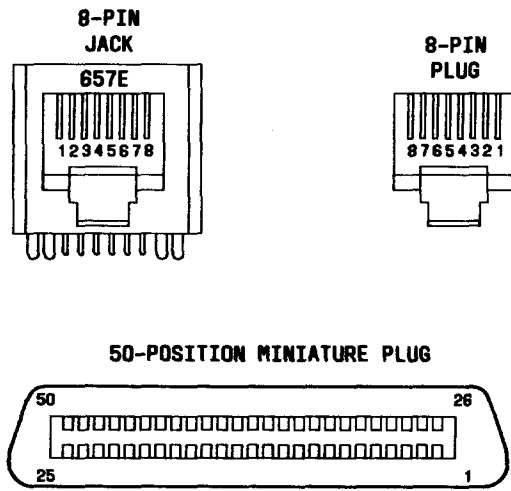

Fig. 3—Customer Connector Pin Numbers
**4.06** Connections to customer equipment can be made using the 16-position terminal strip, the 50-position miniature ribbon plug, or the 8-pin modular jack. Figure 3 shows the pin assignments used in the 8-pin jack and 50-position plug. Refer to Table B for interface lead functions, designations, and connector appearances.